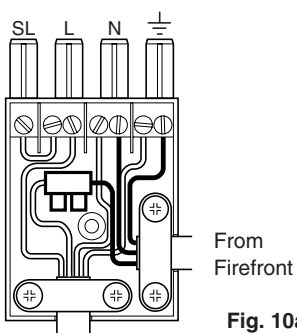

Fig. 10a
5. If the firefront being installed is equipped with either lighting effects or lighting effects and electronic ignition the plug must be wired as Fig. 10a.